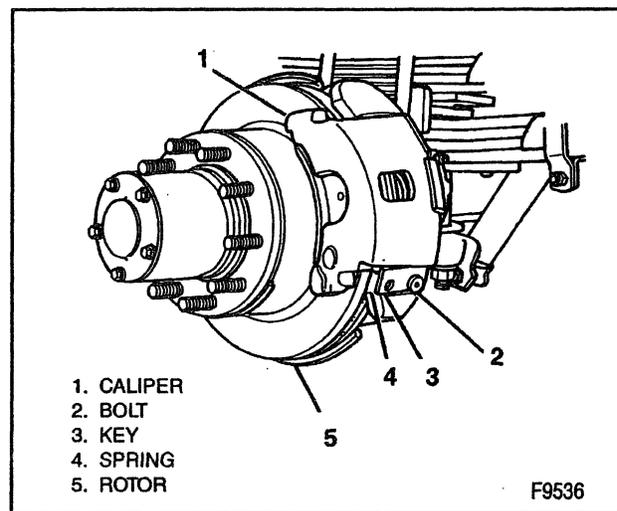
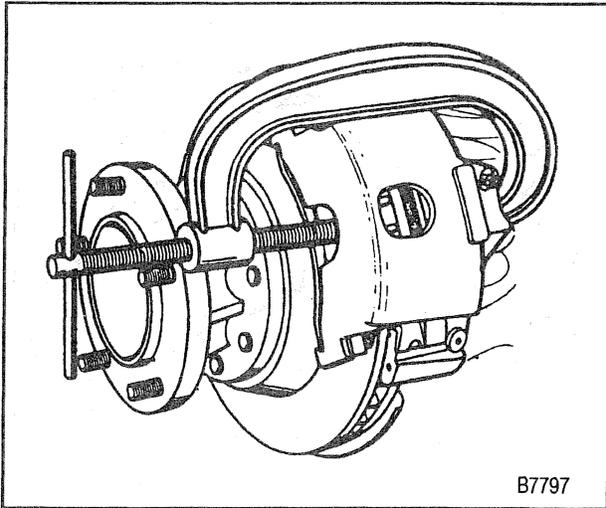

Figure 3—Disc Brake Assembly
Figure 5—Compressing the Caliper Piston
↔ Remove or Disconnect (Figures 3 and 4)
5. Position a C-clamp and tighten until piston bottoms in bore (figure 5).
8. Bolt (2).
9. Support key (3) and spring (4) (figures 3 and 4).
↔ Install or Connect (Figures 3 and 4)